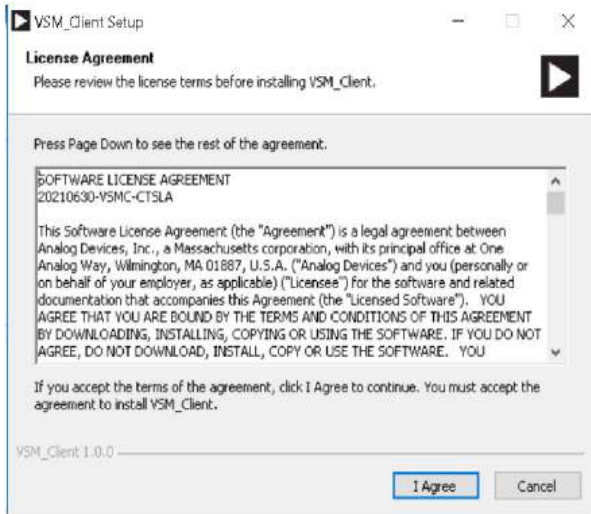

Figure 9. License Agreement
2. Read the software license agreement and click **I Agree** (see Figure 9).